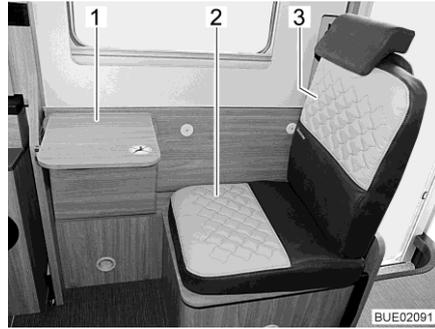
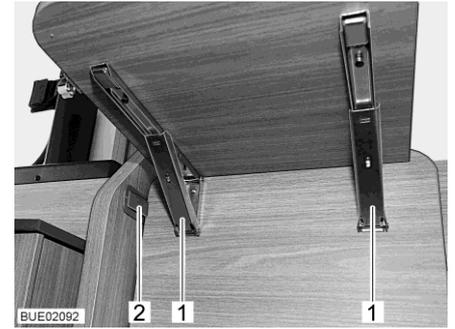

Fig. 30 Additional seat with folding table
Fig. 31 Catches on the folding table
- Attach the included seat cushion (Fig. 30,2) and the back cushion (Fig. 30,3).
- Swing the divan's front part upwards until it engages in the plastic catch (Fig. 31,2).
- Folding the table top away: Unlock both catches (Fig. 31,1) and swing table top (Fig. 30,1) downwards.